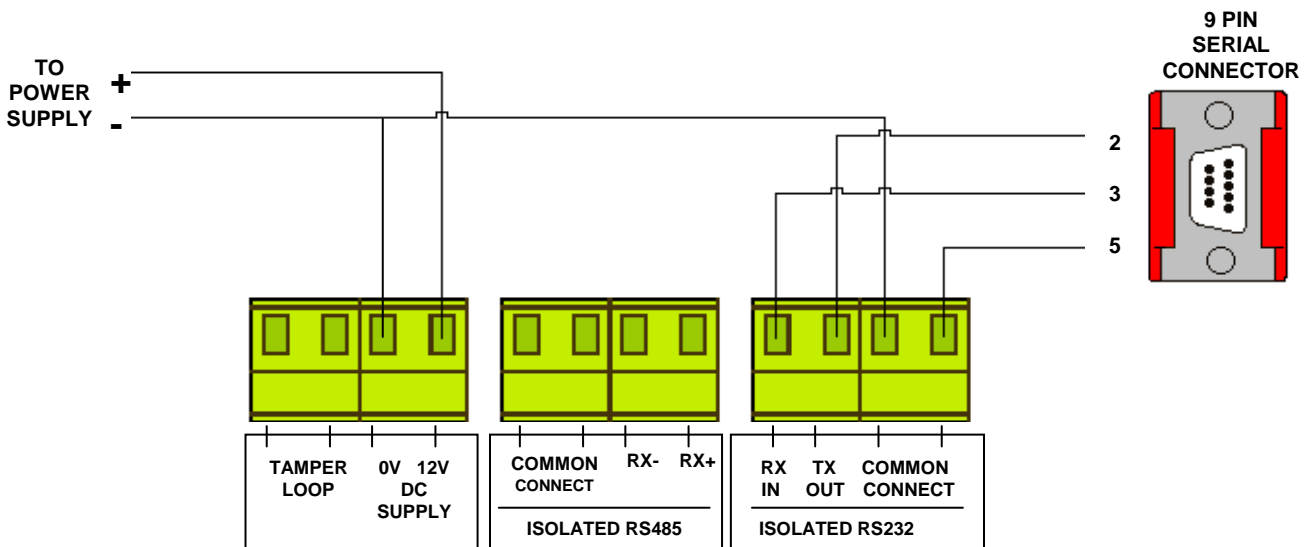

Figure 2
4.2 All Computer to HyperTerminal connections are shown below in Figure 2.